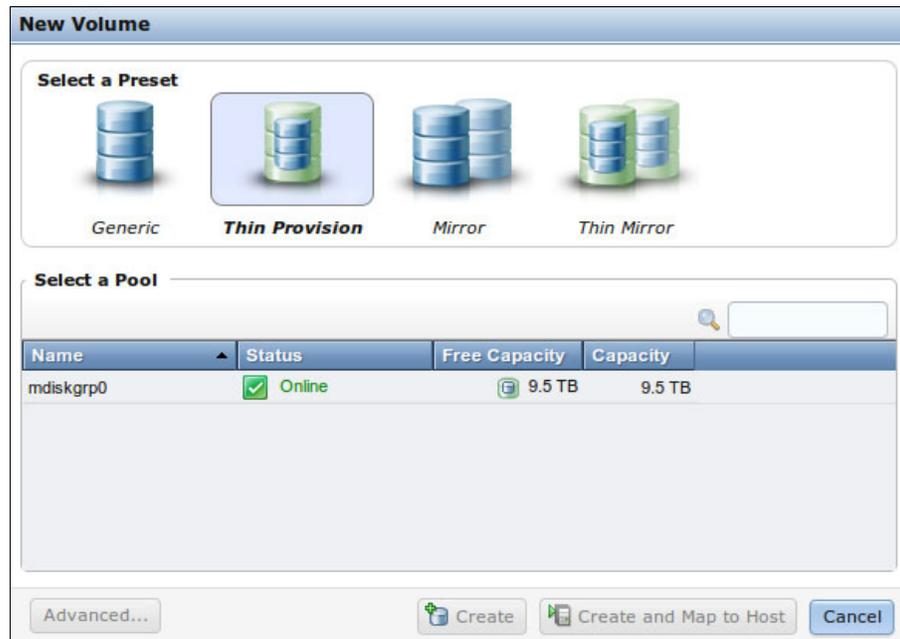

Figure 10-87 Selecting the preset type in the New Volume pane
- In the New Volume pane (Figure 10-87), select the preset type. In this example, we selected **Thin Provision** (the best choice). Then, select a pool. In this example, we selected **mdiskgrp0**. The pane refreshes.